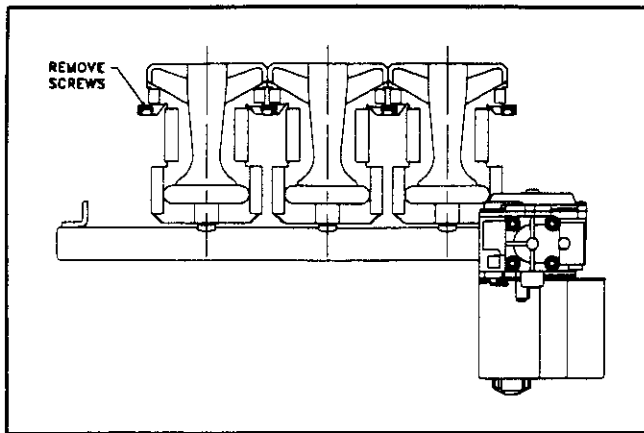

Figure 30. Main Burner Removal.
5. Starting with burner farthest from gas control, remove burner screws and burners. Note how the burner mounting flange of burners farther from the gas control overlap the burner mounting flange of the adjacent burner. See Figure 30.